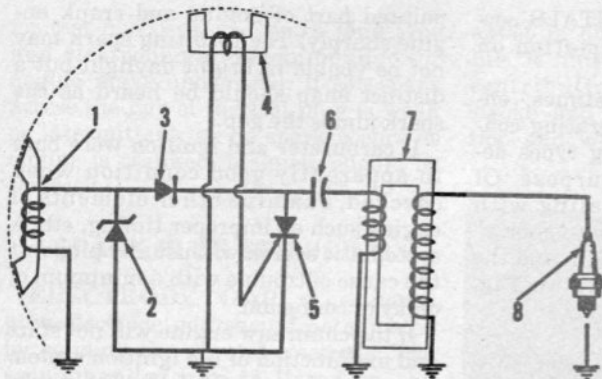

Fig. CS30—Schematic diagram of a simple Capacitor Discharge "Solid State" Ignition system.
Fig. CS30 shows a circuit diagram of a typical capacitor discharge, breakerless ignition system using permanent flywheel magnets as the energy source. The magnets pass by the input generating coil (1) to charge the capacitor (6), then by the trigger coil (4) to open the gate and permit the discharge pulse to enter the pulse transformer (7) and generate the spark which fires the plug. Only half of the generated current passes through diode (3) to charge the capacitor. Reverse current is blocked by diode (3) but passes through diode (2) to complete the reverse circuit. Diode (2) may be a Zener Diode to